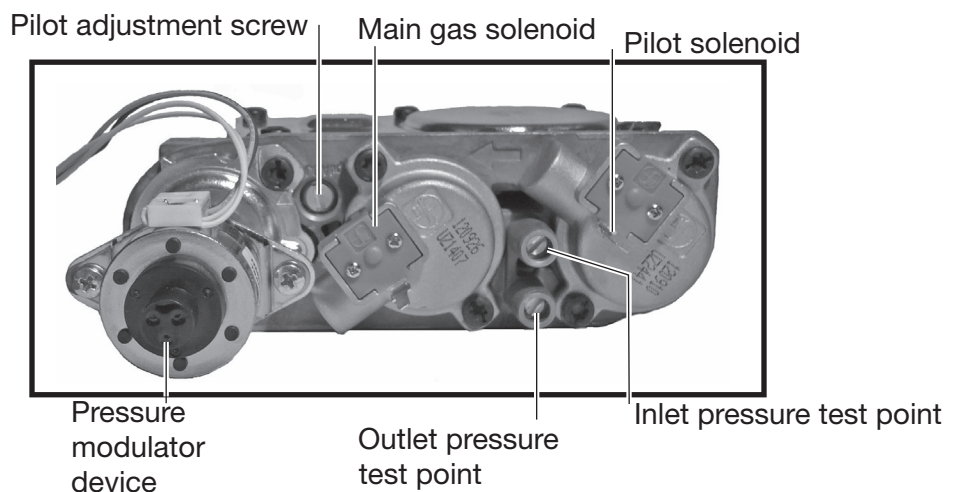

Figure 15: valve.
2. Locate the inlet and outlet test points on the valve which can be seen in (Figure 15). After locating test ports loosen the screws within the ports using a flat-tip screwdriver.
The pilot flame level can be adjusted by turning the adjustment screw, using a flat-tip screwdriver, seen on the valve in (Figure 15).